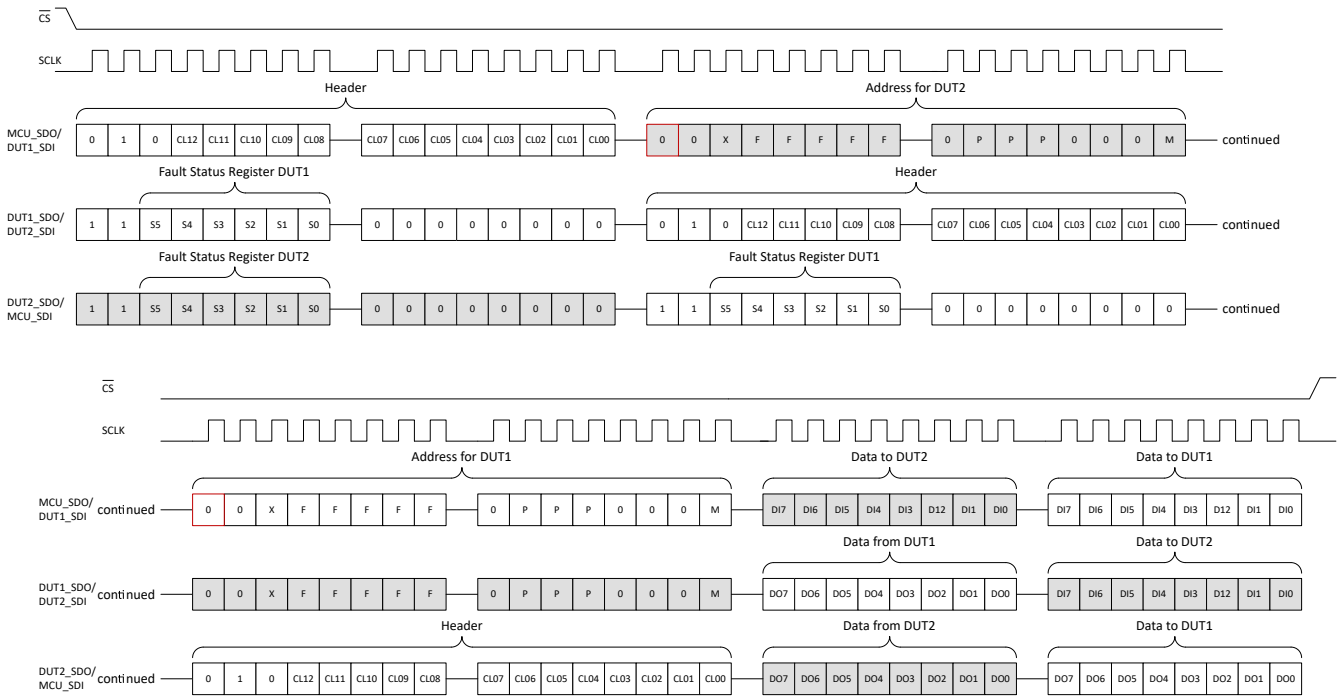

Figure 7-11. SPI Daisy Chain Write
Figure 7-11 shows an example of a daisy chain write for 2 devices in daisy chain. The header byte is transmitted with the chain length (CL) value of 2, followed by the address for DUT2, DUT1 and then the 8-bit data-in for DUT2, DUT1. As the first device shifts the data out, it transmits its status segment, followed by the original header, address for DUT2, data-out from DUT1 and data-in for DUT2. The final device in the chain sends its status, followed by status for DUT1 and finally data-out for DUT2, DUT1.